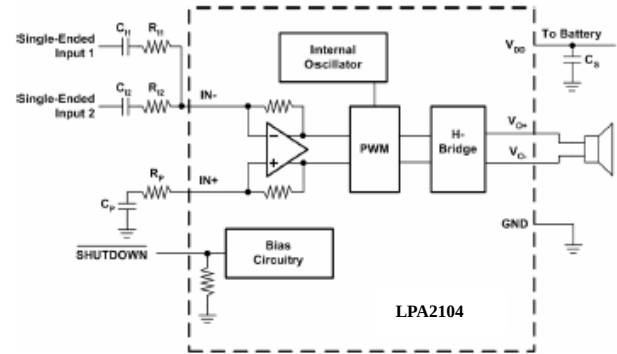

Figure 35. Application Schematic With Summing Two Single-Ended Input
Four resistors and three capacitors are needed for summing single-ended input signals. The gain and corner frequencies (f_{c1} and f_{c2}) for each input source can be set independently (see equations (9) through (12), and Figure 35). Resistor, R_P , and capacitor, C_P , are needed on the $IN+$ terminal to match the impedance on the $IN-$ terminal. The single-ended inputs must be driven by low impedance sources even if one of the inputs is not outputting an ac signal.